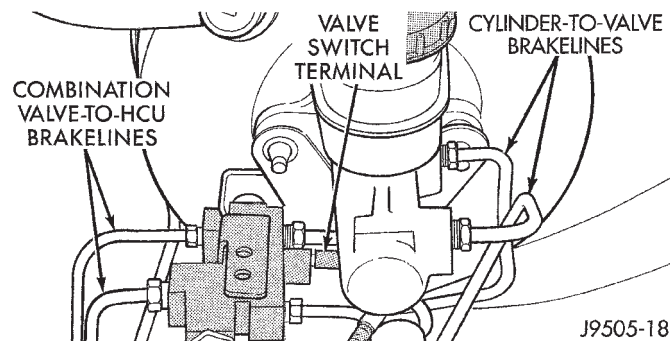

Fig. 20 Combination Valve Brakelines
- (1) Remove brakelines that connect master cylinder to combination valve (Fig. 20).